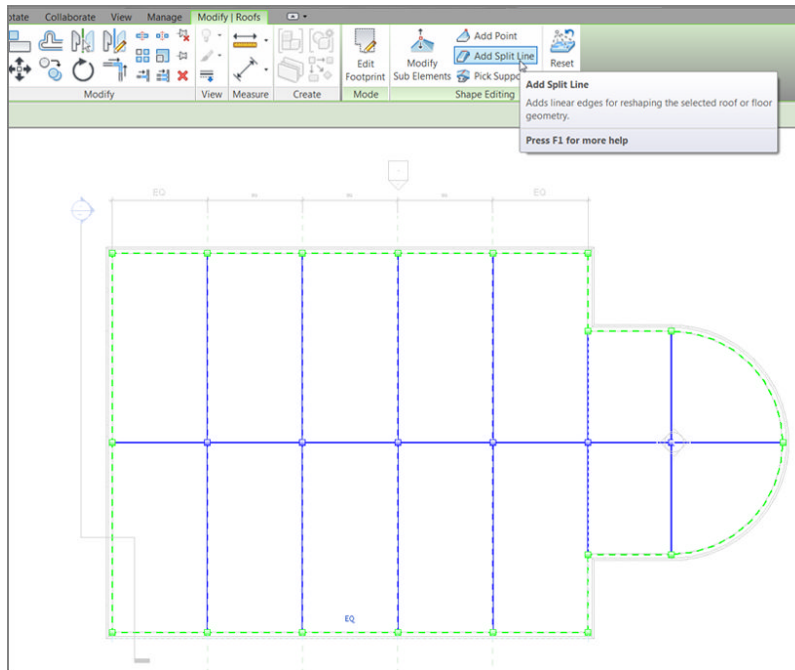

FIGURE 7.11: The ridges are in. All that is left is to create some points and start tapering the roof.
17. Click Add Split Line, as shown in Figure 7.11. Be sure to clear the Chain option.
18. Draw four ridges at the intersections of the reference planes (see Figure 7.11).